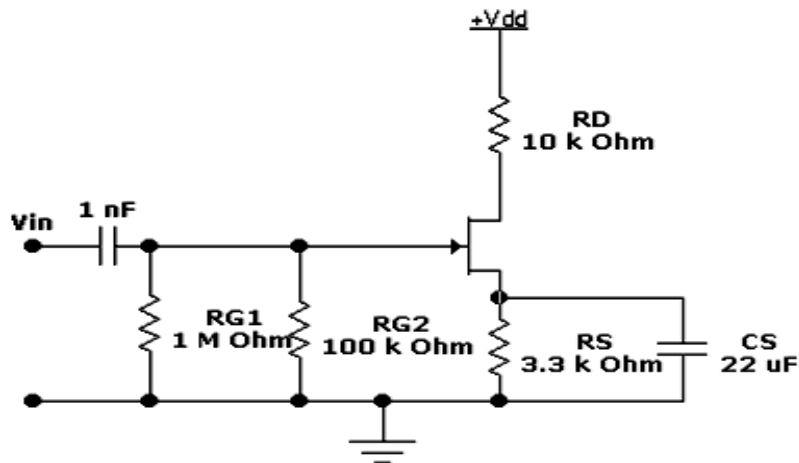

Figure 1: Circuit of a JFET Common-Source Amplifier
For a Common-Source (CS) Amplifier, which is shown in Figure 1, the Input Signal is at the Gate, the Output Signal is at the Drain and the Source is at ground for AC signals due to the Bypass Capacitor CS. C1 is the Coupling Capacitor for the Input signal. The CS Amplifier is analogous to the BJT Common-Emitter Amplifier.
1. Utilizing the kit, make the connections according to Figure 1.